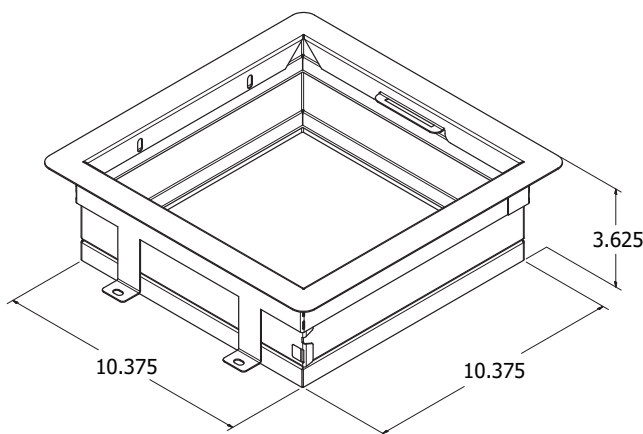

Figure 2: Isometric view of a CRD-300WT damper with plaster flange.
2. Using the (4) Tinnerman U-Clips provided, secure the CRD to the sleeve aligning the Tinnerman clips with the 0.25" holes on the sleeve. Position each Tinnerman U-Clip such that the retaining side is located on the exterior of the damper frame.
4. Install CRD-300WT onto the SP-AP Fan Assembly using the (4) screws & lock nuts supplied. Locate screw heads on the same side as the damper.
5. Next, install (4) 2" x 4" wood boards vertically to the Truss Assembly 12" OC for mounting the SP-AP fan assembly.
6. Using the height dimension of 3.625" (distance from bottom edge of installation bracket to edge of CRD to be flush drywall, see figure 2), measure and mark the 2" x 4" wood boards where bottom edge of the installation bracket is to be installed.
7. Secure one side of the SP-AP Installation bracket assembly by fastening (2) captured self-tapping screws to the 2" x 4" woods boards referencing the mark made in step 6.
8. Extend the SP-AP Installation Bracket to the required distance referencing marks made in Step 6. Secure using (2) captured self-tapping screws.
9. Mount adapter to the expandable mounting bracket using (2) self-tapping screws provided tapped to duct adapter.
13. Secure the plaster flange onto the fan/CRD assembly by fastening the (4) self-tapping screws provided into the Tinnerman clips installed in step 2.
15. Install the wire retaining bracket with the remaining (1) self-tapping screw.